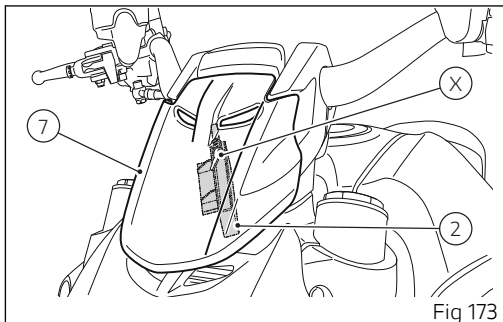

Fig 173
The active key (3) with flat battery and the passive key (4) have a range of action of a few inches (cm), therefore it is necessary to position one of the two keys very close and in correspondence of the symbol (X) of the hands free key on the headlight fairing (7); this symbol, on the headlight fairing (7), above the headlight at the front of the bike, indicates the presence of antenna (2,(Fig 173)) under the headlight fairing (7).